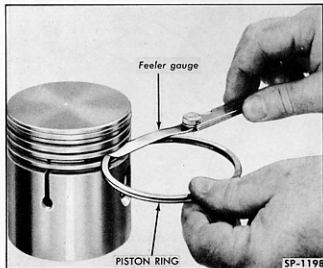

Fig. 17—Checking Piston Ring Side Clearance
7. Check width of piston ring grooves using a new piston ring and a feeler gauge as shown in Fig. 17.